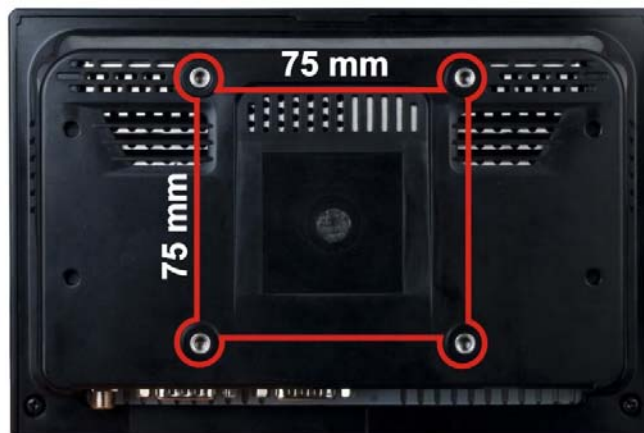

Figure 3-19: Arm Mounting Retention Screw Holes
Step 3: Align the retention screw holes on the mounting arm interface with those in the flat bezel panel PC (**Figure 3-19**).